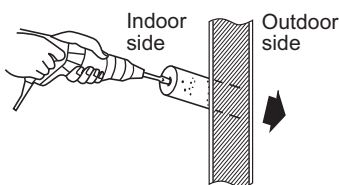

Fig. 2-79
- (8) If the tubing and wiring are to go towards the rear of the unit, make holes in the wall. (Fig. 2-79)